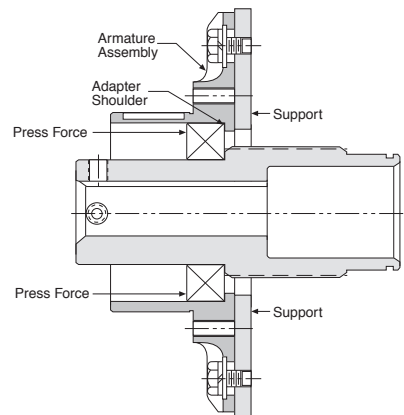

Figure 42
17. Press the hub and bearing into the Adapter Assembly until the outer race of the bearing locates against the shoulder of the adapter hub. Note that the **force is to be exerted on the outer race.** Support the armature face as shown in Figure 42.
Note: The Armature Assembly must rotate freely on the hub. Inspect to insure that the inner bearing is still firmly located against the adapter shoulder as previously shown in Figure 42. When inspecting, place unit firmly on flat surface with exposed hub end up.